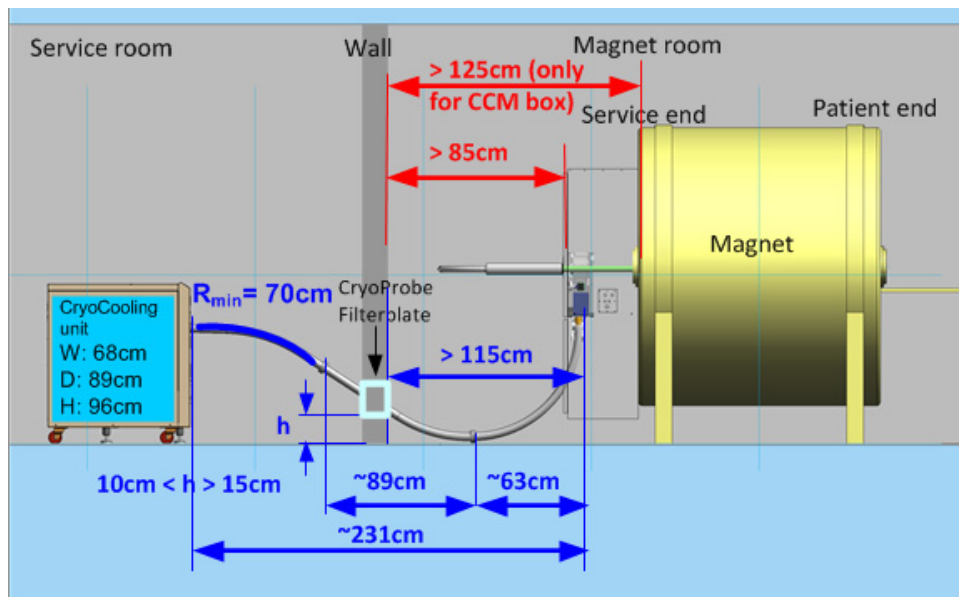

Figure 7.3: Principle outline of an MRI CryoProbe (3m) system mounted at the service end of the magnet seen from the side.
The Transferline is available with a standard length=4 m, but can be order from 3 m at the minimum up to 6 m in 1 m increments, (longer lengths available on request). The bending radius has to be larger than 70 cm. A possible arrangement is shown in Figure 7.3
Step 4 in the Site Planning contains the planning of the CryoCooling Unit position. The CryoCooling Unit has to be installed adjacent to the magnet outside the 5 mT stray field within the service room. The exact location of the Cooling Unit must be determined using the stray field data of the magnet and the entire system installation. Furthermore, the path for installation, removal, service or exchange has to be outside the 5 mT stray field. An example of a typical instrument layout is shown from the top view in Figure 7.1 and from the side in Figure 7.3. This siting will be used regardless of whether a Faraday cage is present or not, **and regardless of whether there is a static strayfield or not**. Typically, the Cooling Unit may be placed very close to the shield, allowing the shortest possible length for the Transferline. However, care must be taken to avoid local high field spots which may arise near the openings or edges of the iron cage.